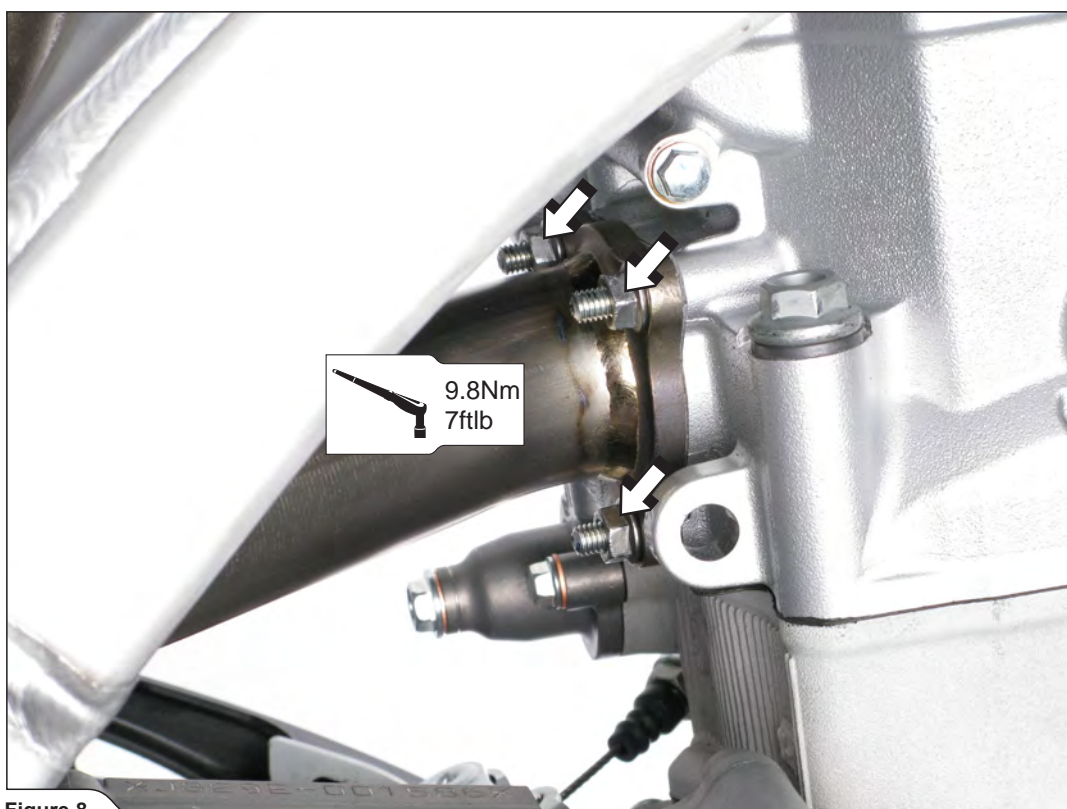

Figure 8
1. Install the Akrapovič header pipe using stock nuts. Tighten the nuts to a specified torque (Figure 8).